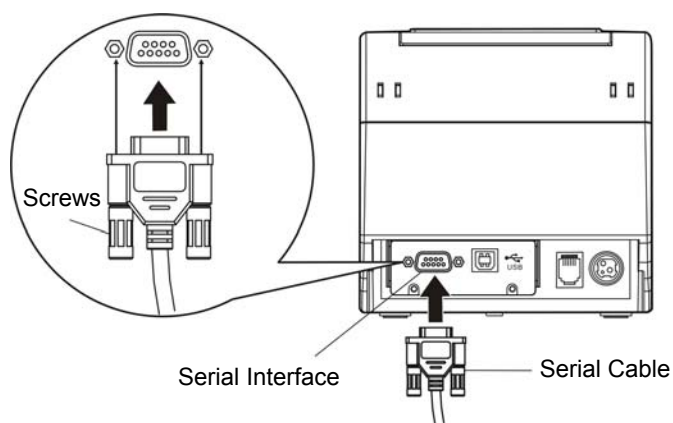

Figure 2-5 Connecting the serial cable
1. Make sure the computer and the printer are both turned off, connect the serial cable to the connector of the printer. Tighten the screws as shown in Figure 2-5.